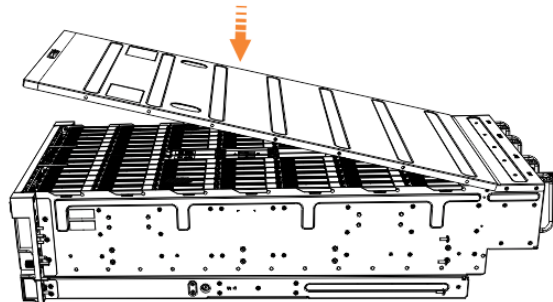

Figure 98. Aligning the top cover
6. Carefully lower the cover and ensure that it is aligned correctly with the back of the enclosure, as shown in Figure 98 on page 157.